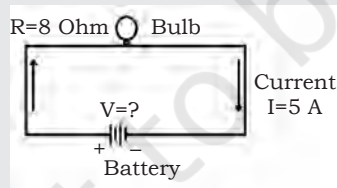

Fig. 1.58
16. Calculate the voltage 'V' in the circuit in Fig. 1.58.